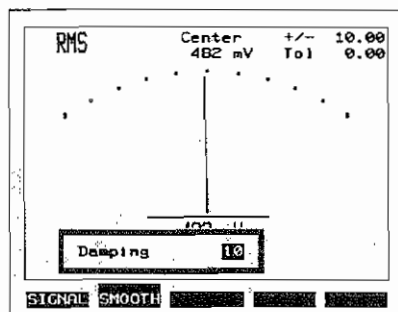

Fig. 2.16: A flickering pointer can be damped by entering a figure between 10 and 15 in the SMOOTH menu.
- 1) Open the menu window with **[MENU]** + **[SMOOTH]** (Fig. 2.16).